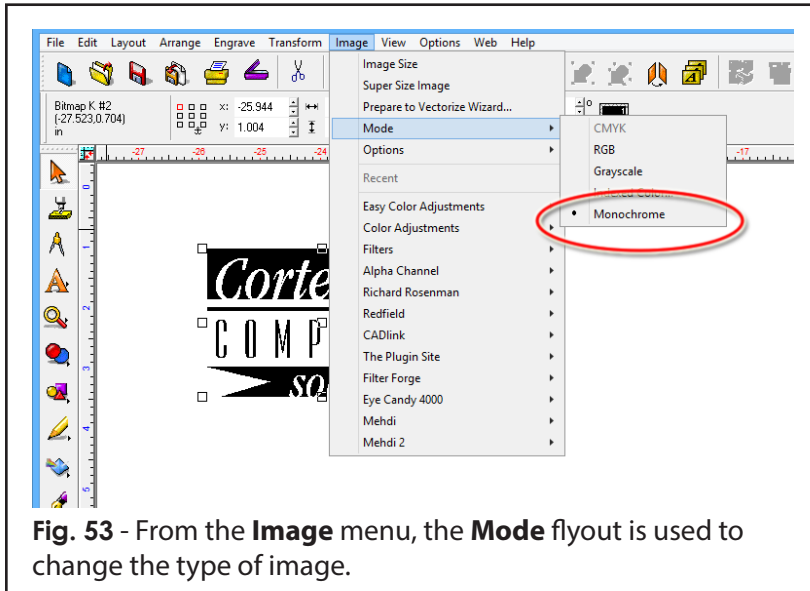

Fig. 53 - From the **Image** menu, the **Mode** flyout is used to change the type of image.
6. Choose **Image** menu >> **Mode** >> **Monochrome** (Fig. 53).